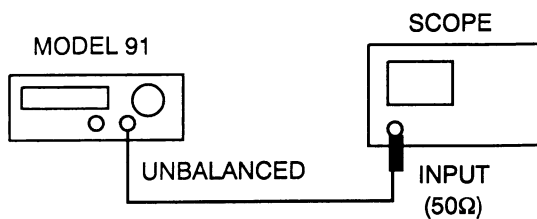

Figure 3-3. Waveforms/Sweep Setup
2. Connect the Model 91 and test equipment as shown in figure 3-3. Remember to terminate the Unbalanced Output into 50Ω
2. Connect the Model 91 and test equipment as shown in figure 3-3 for this measurement. Remember to terminate the Unbalanced Output into 50Ω .